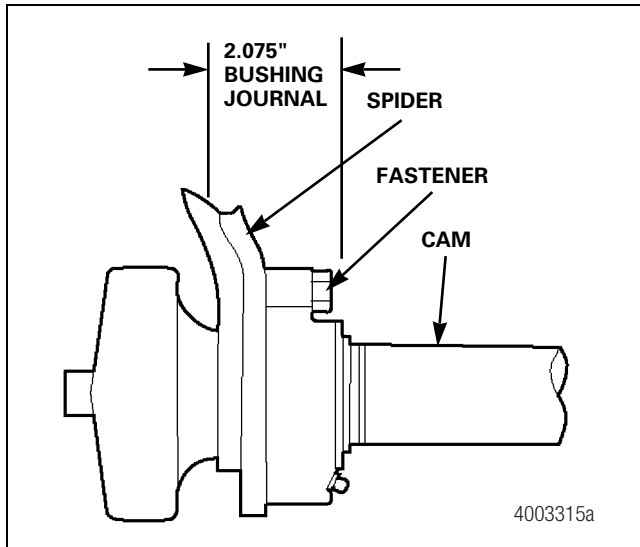

Figure 12.14
- Cams with heat-treated journals are used with bolt-on bushings. Figure 12.14.